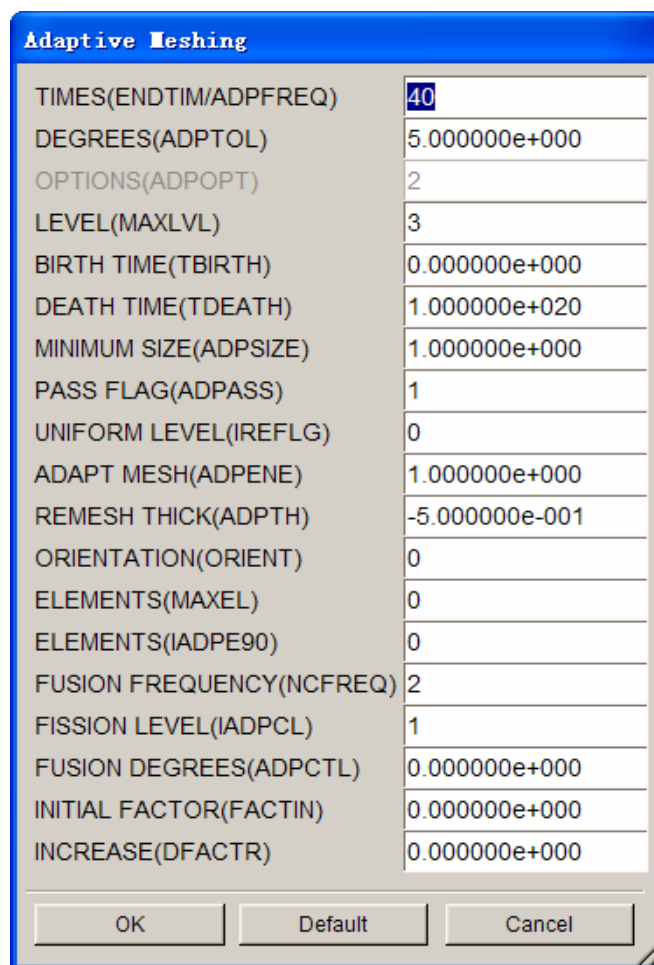

Figure 8.2.97 Adaptive Advanced Parameters
**ADVANCED...:** Advanced setup for adaptive meshing. The interface is shown in Figure 8.2.97.